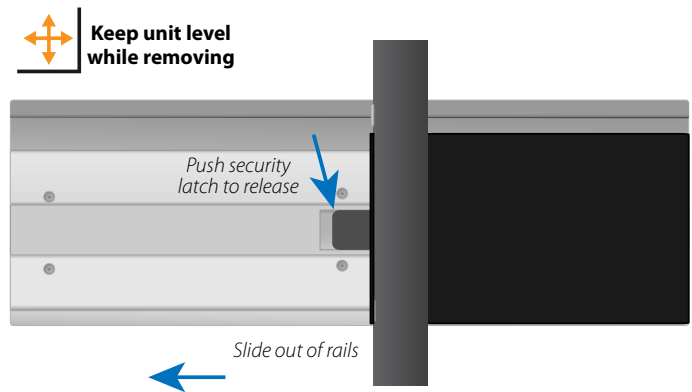

Figure 2.2.2b
5. It is recommended to have a second person assist the removal at this point. Press the security latches while simultaneously sliding the unit out just past the security latch as illustrated in **Figure 2.2.2b**.